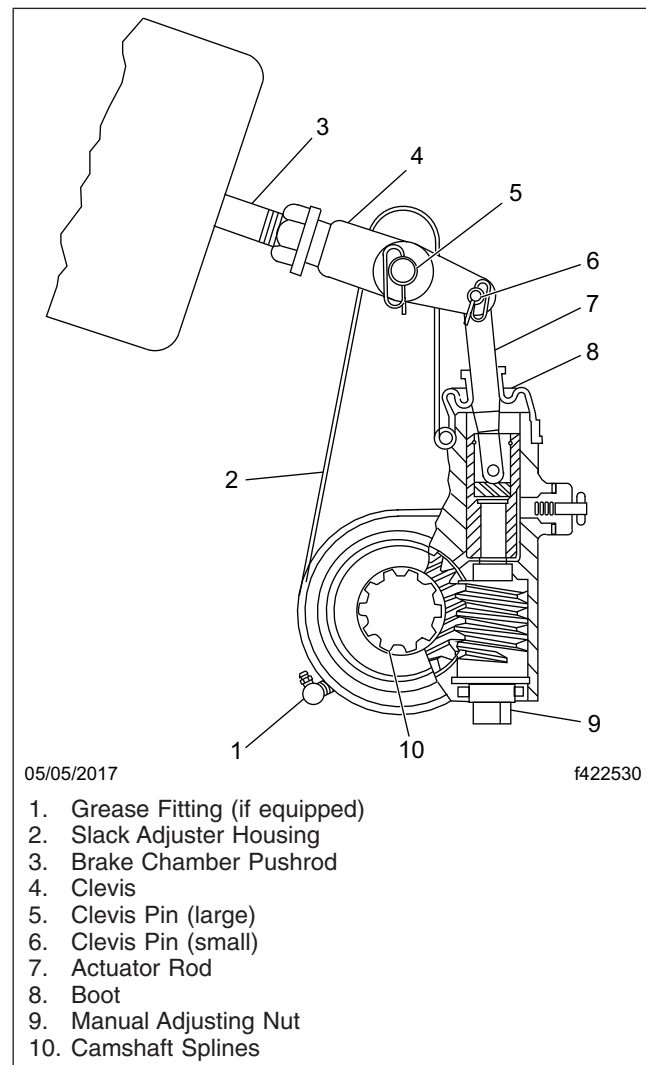
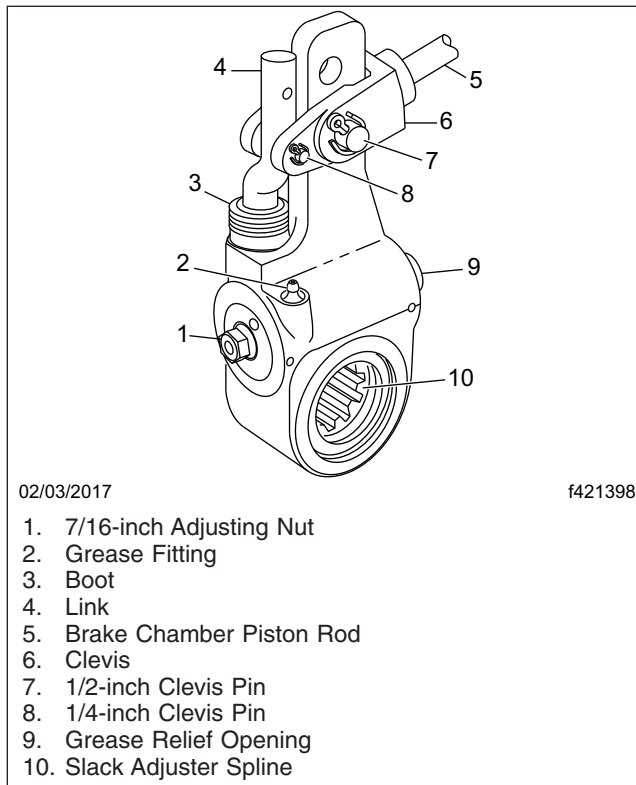
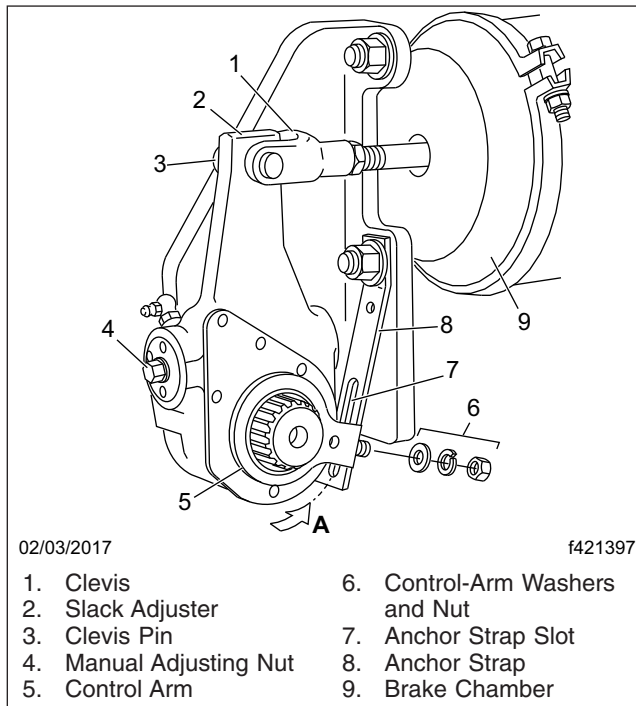

Fig. 23.1, Meritor Automatic Slack Adjuster
Fig. 23.2, Gunite Automatic Slack Adjuster
Fig. 23.3, Haldex Automatic Slack Adjuster
2. Inspect slack adjusters for signs of damage. See Fig. 23.1, Fig. 23.2, or Fig. 23.3.